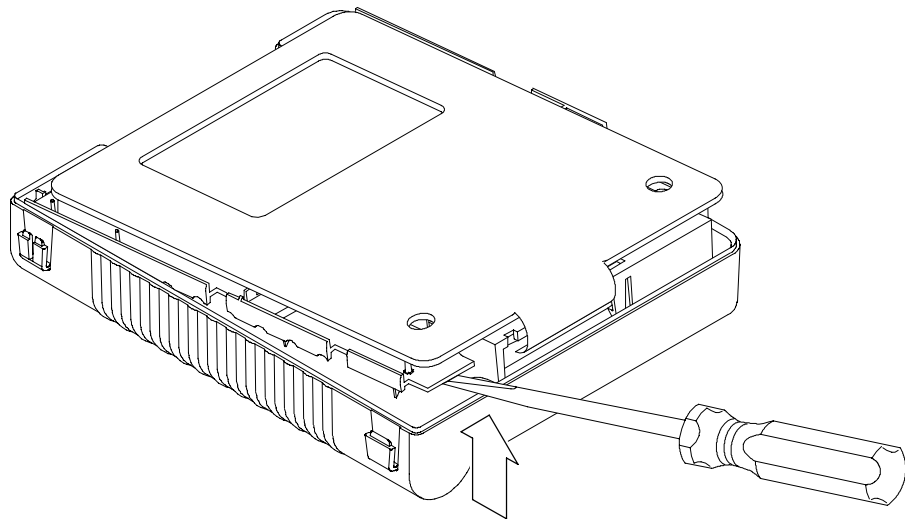

Figure 21: Lifting the chassis
3. Insert the $\frac{1}{8}$ inch flat-bladed screwdriver between the back cover and chassis at the location shown in Figure 21.